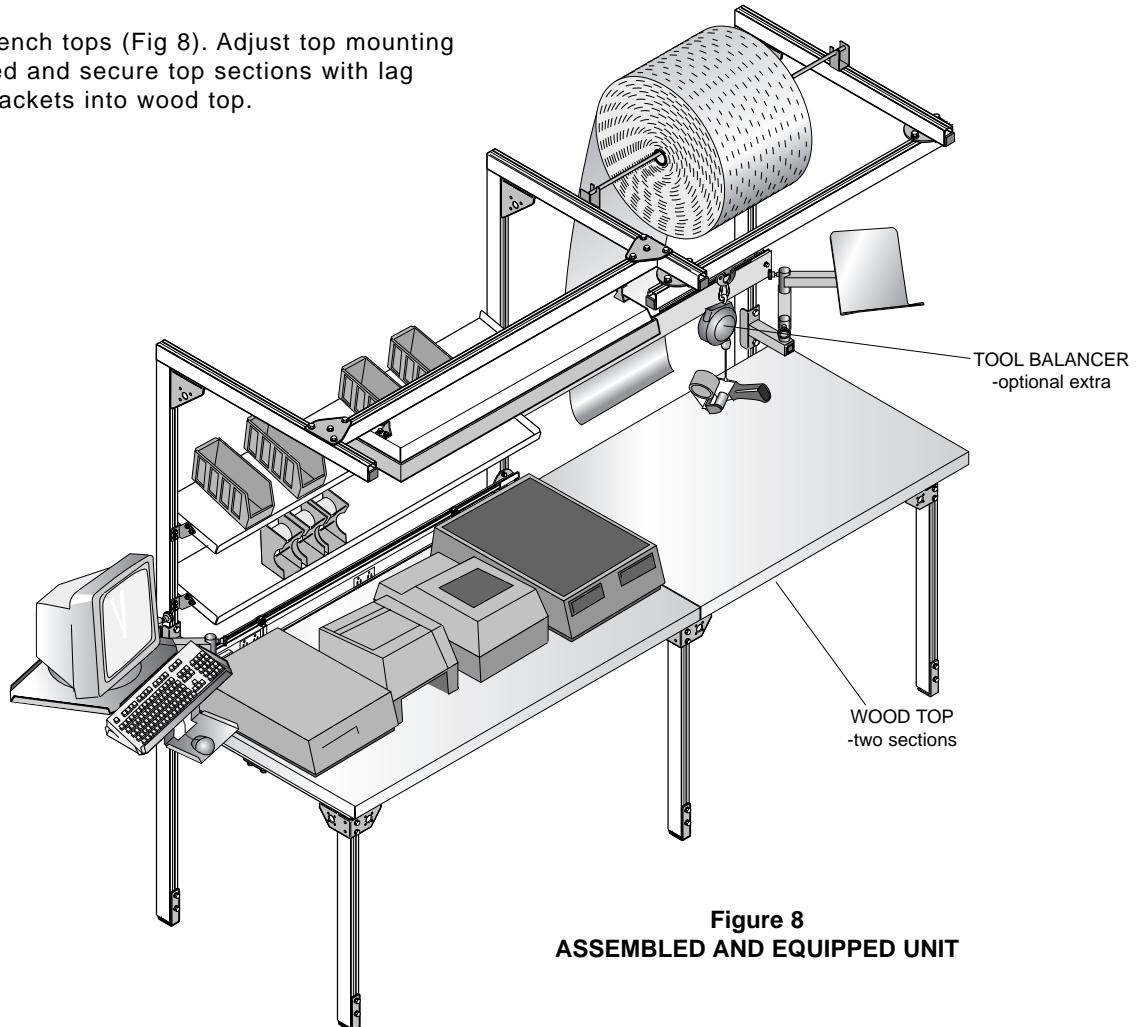

Figure 8
23. Install wood bench tops (Fig 8). Adjust top mounting brackets as needed and secure top sections with lag screws through brackets into wood top.